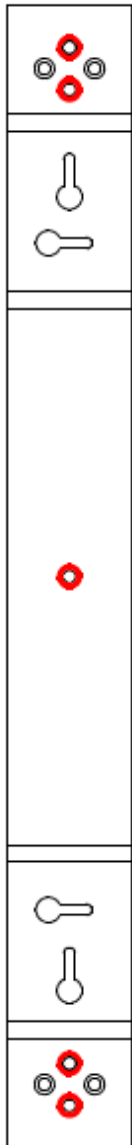

Figure 2
- Find the center of one stud and mount the provided bracket using the provided screws. Place screws in the holes highlighted in red in figure 2.